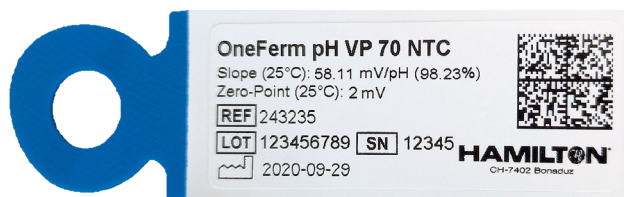

Figure 5: Example sensor label with calibration values.
1. Read the zero point (mV) and slope (mV/pH or %) written on the sensor label (see figure 5).